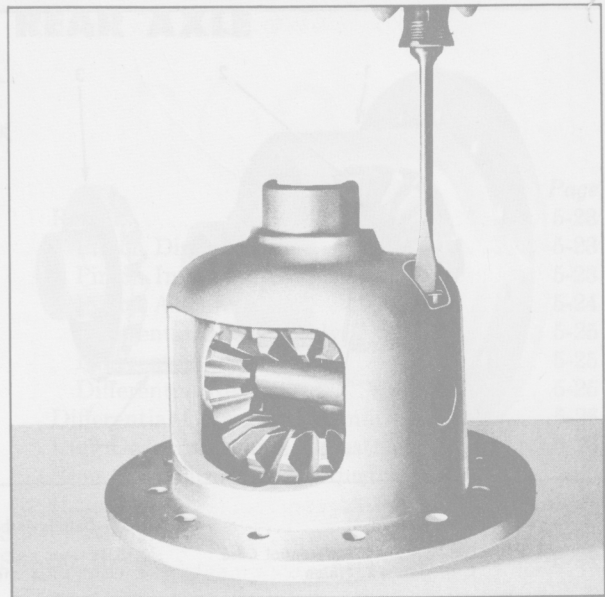

Fig. 35—Removing Pinion Shaft Lock Screw
1. Remove pinion shaft lock screw (fig. 35) and remove shaft from case.